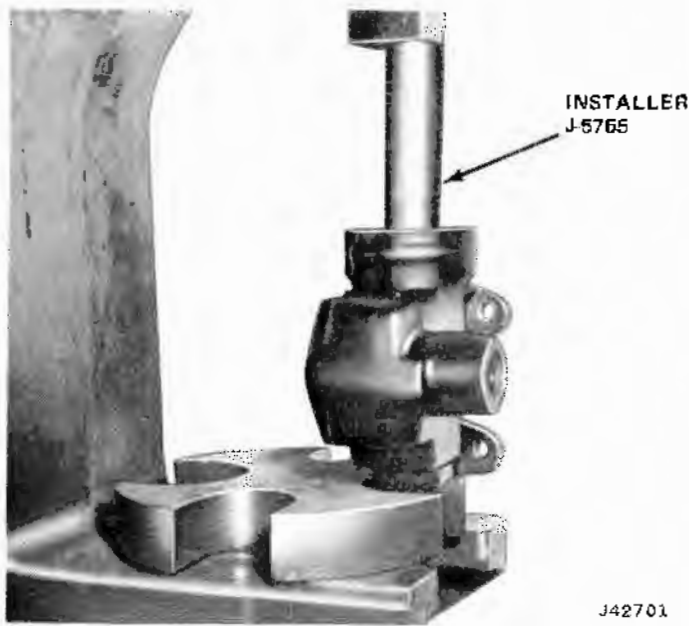

Fig. 11-41 Pressing in Bearing Cup
(4) Position clamp over two ball guides and secure with three bolt and washer assemblies.
(5) Rotate worm through its complete travel several times to ensure that balls are installed correctly and rotate freely. Do not allow ball nut to hit end of worm travel; this could damage ball return guides.
(6) If bearing cups were removed from worm adjuster or housing, press in a new bearing cup, using Worm Shaft Bearing Cup Installer J-3755 (fig. 11-41).
(7) Install upper worm bearing on upper part of wormshaft and center ball nut on worm.
(8) Install assembly in housing with bearing seated in bearing cup.
(9) If bearing was removed from worm adjuster, install a new bearing and retainer in worm adjuster.